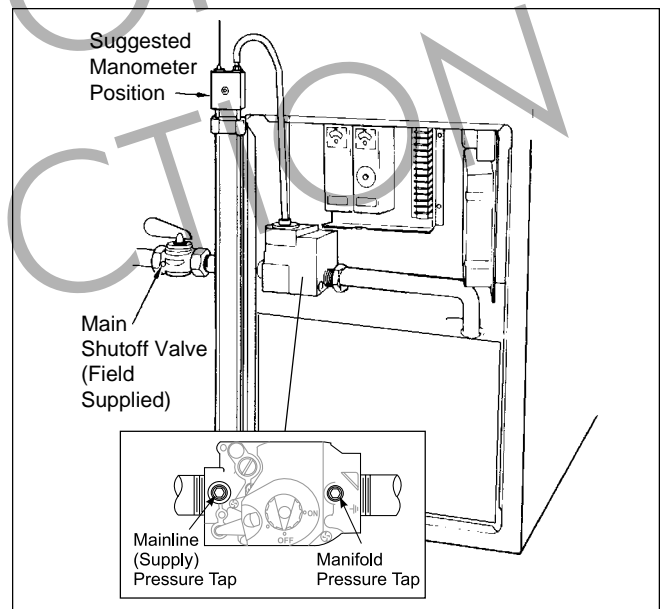

Figure 37. Gas Manifold Pressure Test.
1. Attach a manometer (or a dry gas pressure gauge) to boiler jacket (see Figure 37).
2. Touch the other lead to the red wire terminal (see Figure 37). The voltmeter should read 20 to 28VAC.